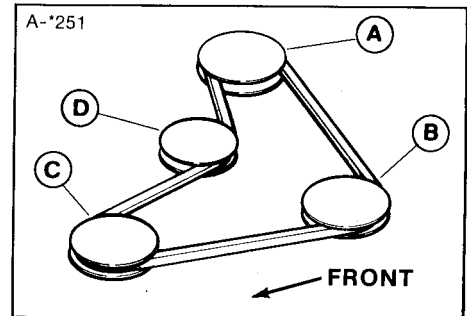

Figure 26. Mower Belt Pattern - 36"
4. Install the new belt on the pulleys as shown in figure 26.